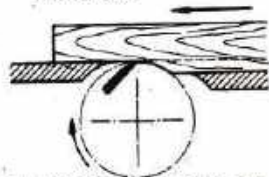

Fig. 662. CORRECT TABLE ADJUSTMENT
4. Place the board on the front table with the best surface (face side) against the fence. Make certain that you plane with the grain. Fig.662